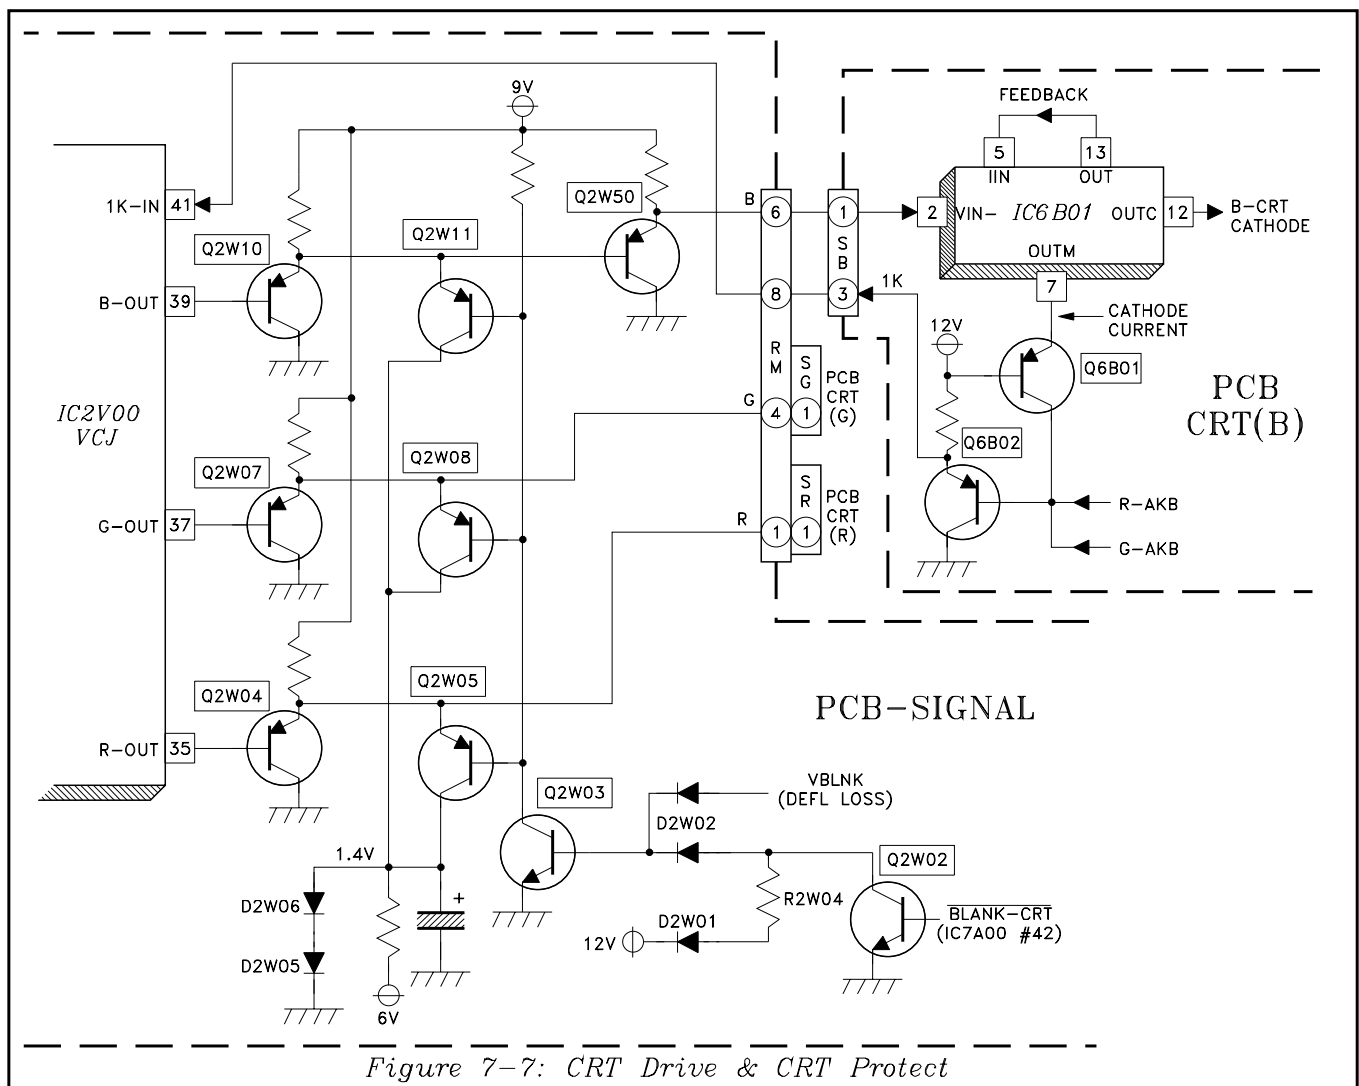

Figure 7-7: CRT Drive & CRT Protect
Figure 7-7 illustrates the CRT Drive and CRT Protect circuitry. The CRT Drive circuitry is the same as that in the V17, except that the three discrete component transistor amplifiers on each PCB-CRT are replaced with a single IC, IC6B01, IC6G01 or IC6R01. Only the PCB-CRT(B) is shown in Figure 7-7.